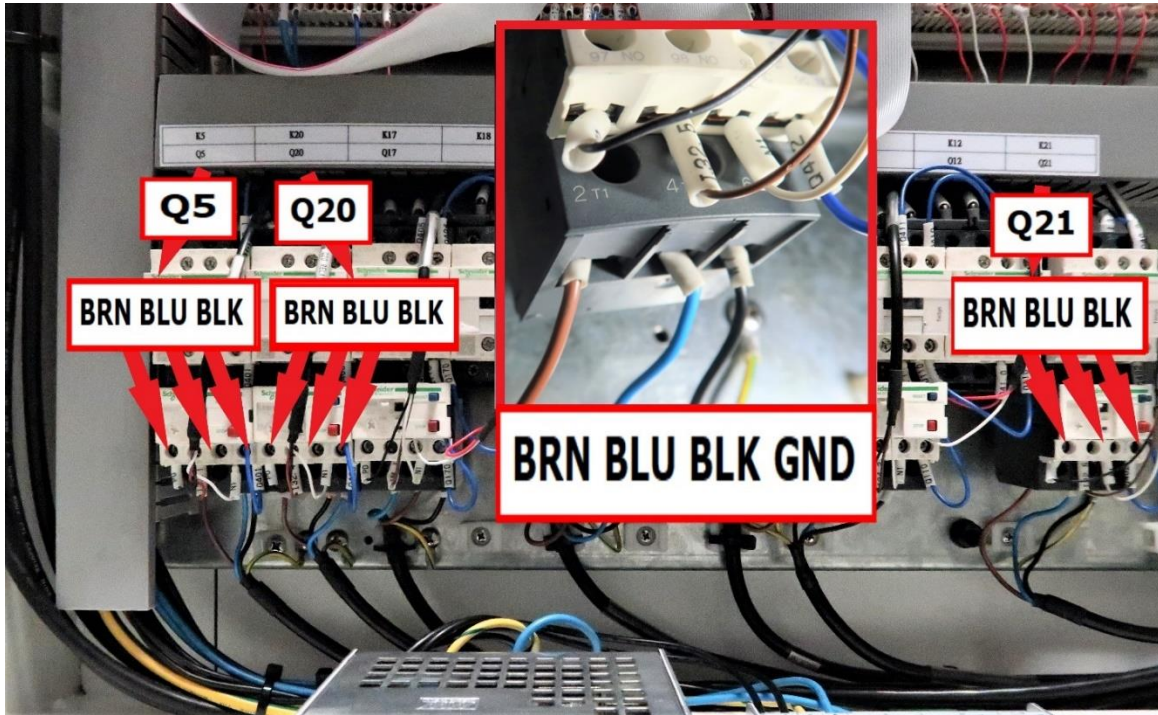

Figure 2.10c VMC12/14si Coolant, Coolant Wash Down and CTS Wiring
4. The power wires are routed thru the rear opening in the electrical and connects to relay Q21 see figure 2.10c.